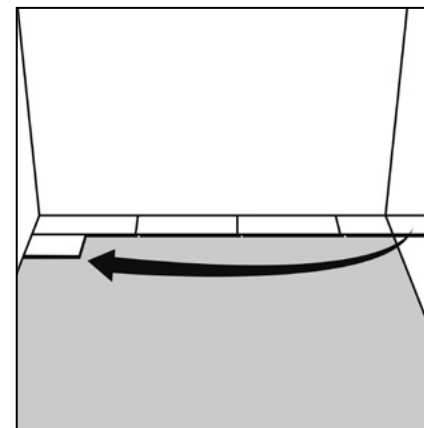

Figure 25 First plank, second row
- > Insert a spacer between the end of the first row and the wall (expansion gap). Start this new row with the leftover piece from the last row (min. length 350mm – fig. 25).